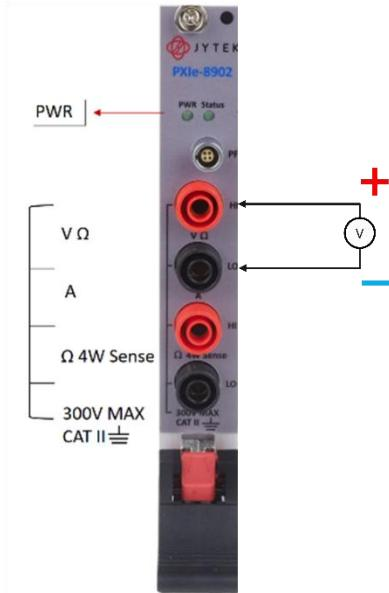

Figure 6 Connection Method of Voltage Measurement
The JY-8902 can accurately measure voltage values. When operating in voltage mode, the connection method between the voltage to be measured and the JY-8902 is illustrated in Figure 6 Connection Method of Voltage Measurement.
- Connect the voltage signal ($V = 5V$) source to JY-8902 as shown in Figure 6 Connection Method of Voltage Measurement.
- Connect the signal source (Wave type: Sine; Vpp = 5V; f = 1k) to JY-8902 as shown in Figure 6 Connection Method of Voltage Measurement.
- Connect JY-8902 with DC Voltage source(V=5V). The connection method is illustrated in Figure 6 Connection Method of Voltage Measurement.
- Connect JY-8902 with DC Voltage source(V=5V). The connection method is illustrated in Figure 6.
- Connect JY-8902 with DC Voltage source (V=5V). The connection method is illustrated in Figure 6.